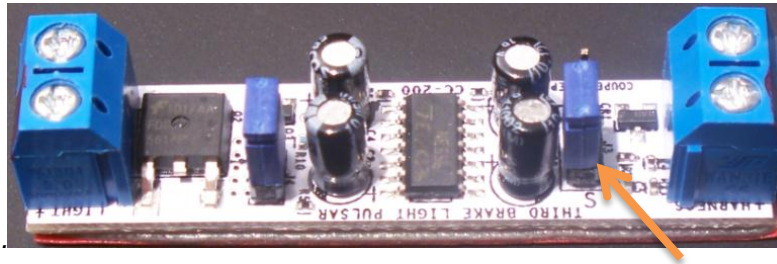

Figure 2: Location of Pulse Duration Jumper (“Short” pulse setting shown above)
**Pulse Duration Setting (Figure 2):**